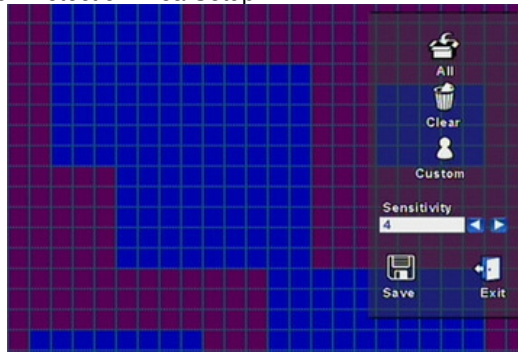

Fig 3.11 Motion Detection Area Setup
STEP2 Enable Detection first. Enter Area to set Sensitivity and detection Area. In detection area, red means not active, transparent means active, see Fig 3.11 Motion Detection Area Setup.